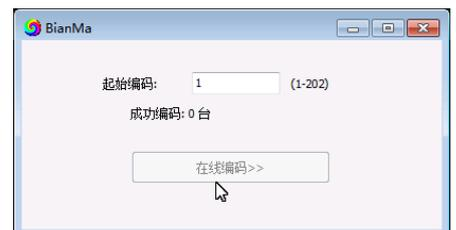

Figure 3
1.4. Set the controller start number, click the online number button, start numbering, as shown in Figure 3.